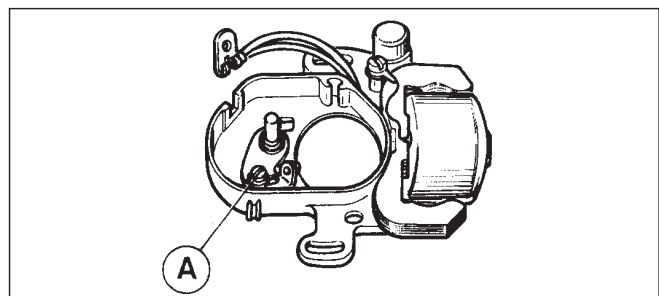

Fig. 9
- Detach static point by removing securing screw **A**. (Fig 9).